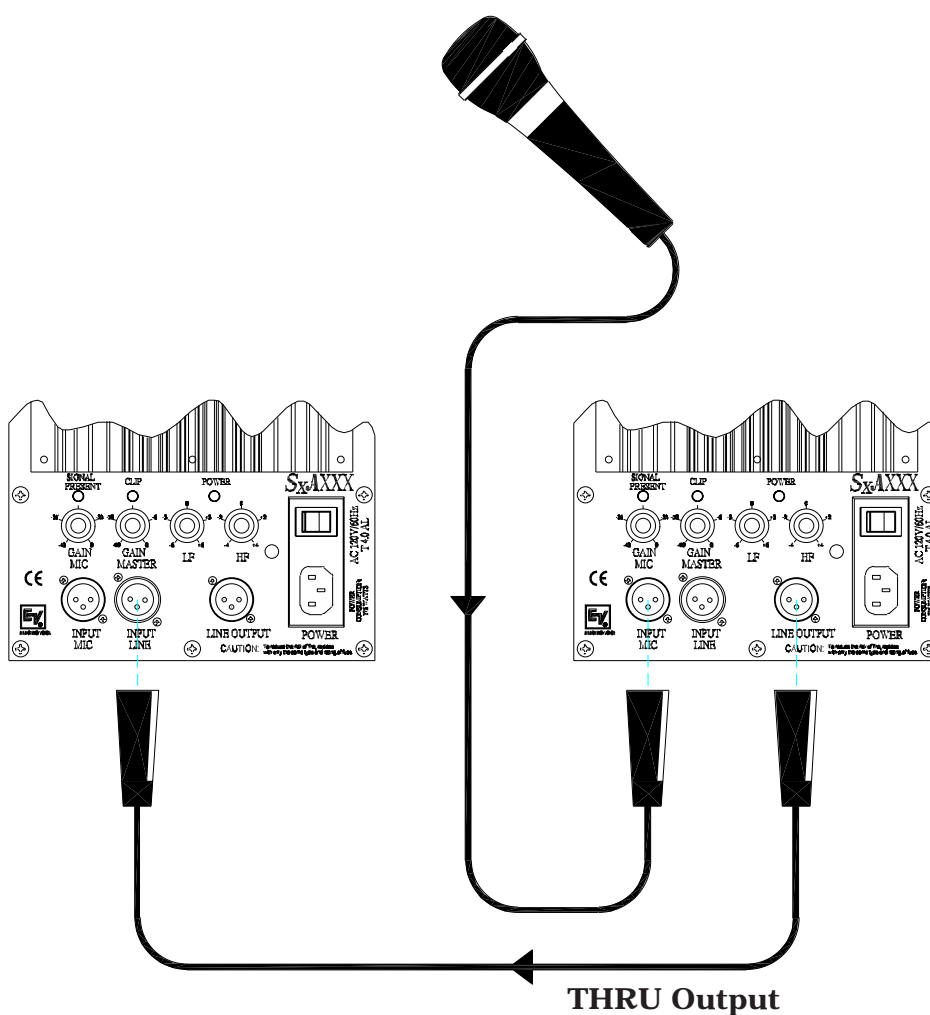

Figure 3:
- Plug a microphone into the microphone input connector (See Figure 3). It will only accept low-impedance dynamic microphones terminated with a standard 3-pin XLR-type connector. Turn the gain control clockwise until the signal present LED stays on with the input signal at normal operational level. Adjust the master gain control to the desired overall output level.